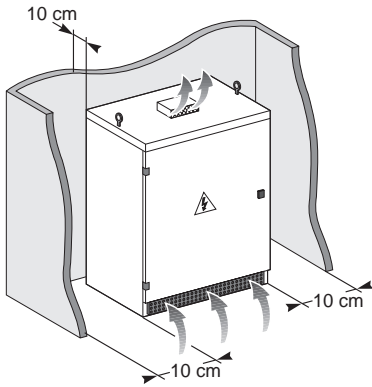

Fig 5
Ventilation (fig 5)
- Position equipment in such a way as to not obstruct air intakes or exhaust: leave a 10-cm space between the capacitor bank and the wall (fig 5).